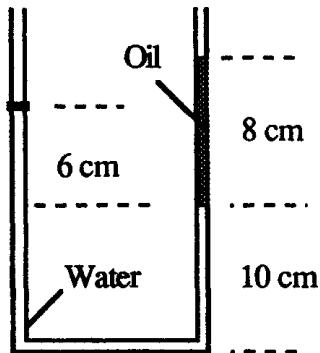

Fig. P2.23
**2.23** In Fig. P2.23 both fluids are at 20°C. If surface tension effects are negligible, what is the density of the oil, in kg/m3?